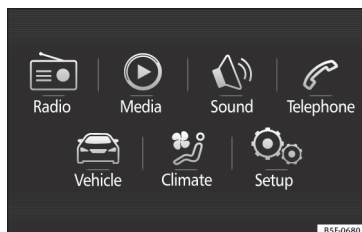

Fig. 41 Easy Connect: Main menu.
- Press the Infotainment button  /  and then the **Vehicle** function button  **»» Fig. 41,**